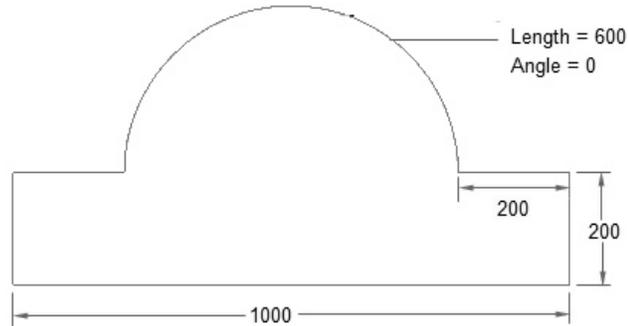

Figure 3-38 Sketch of the thin extruded model
- c. Draw the sketch by using the sketching tools, refer to Figure 3-38.
11. Move the cursor in the vertical downward direction and specify the length of line as **200**; refer to Figure 3-38.
2. Select the sketch, refer to Figure 3-38; the preview of the extrude feature is displayed, as shown in Figure 3-39. Also, the live toolbar is displayed